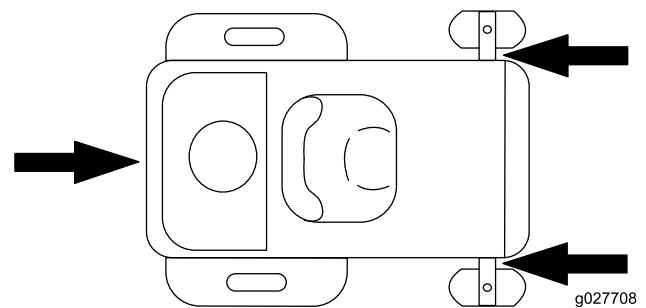

Figure 26
- Tie down the machine near the front caster wheels and the rear bumper (Figure 26).